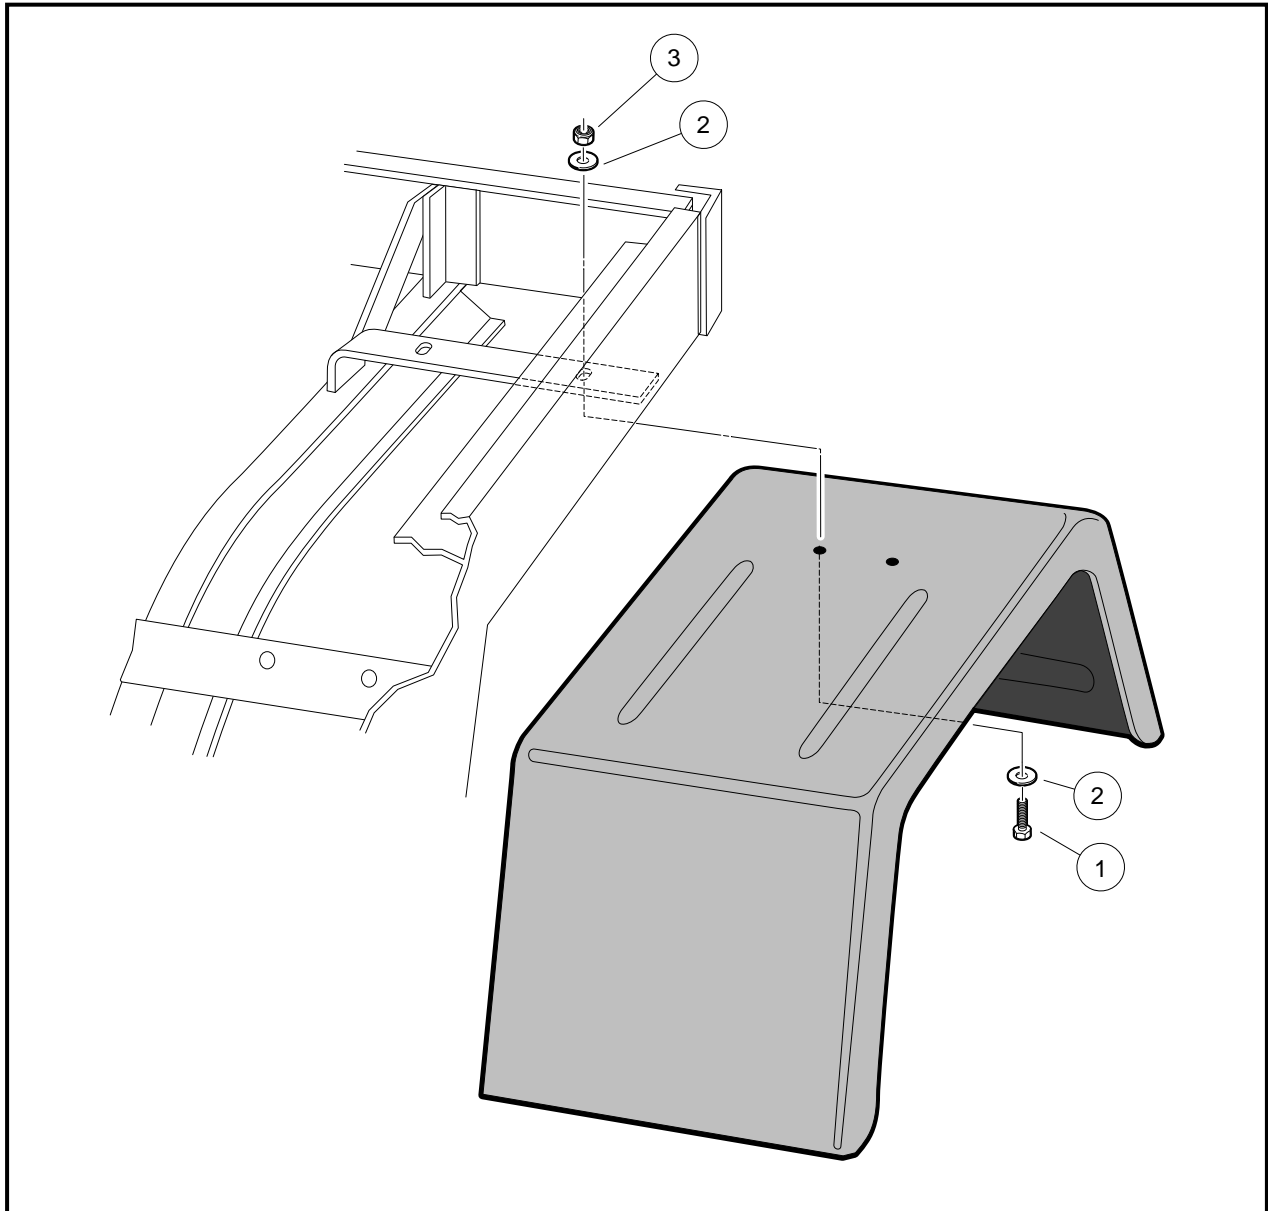

Figure 4-4 Install Hardware in Fender Hole
3. Position a fender in the vehicle, align the hole in the fender with the slot in the frame as shown and install bolt (1), flat washers (2), and locknut (3) (Figure 4-4, Page 4-9). Finger-tighten only at this time.